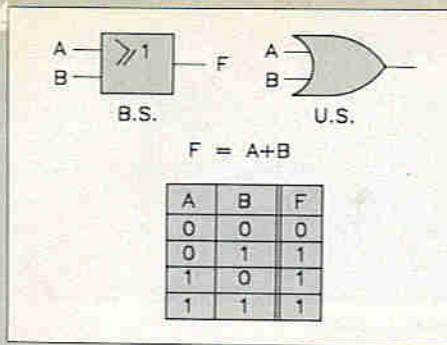
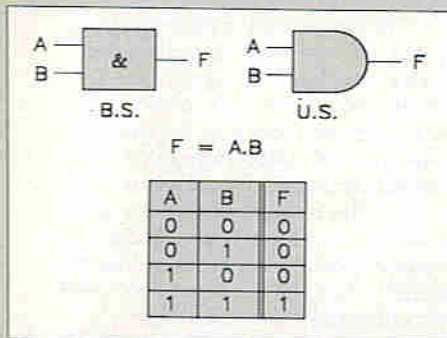
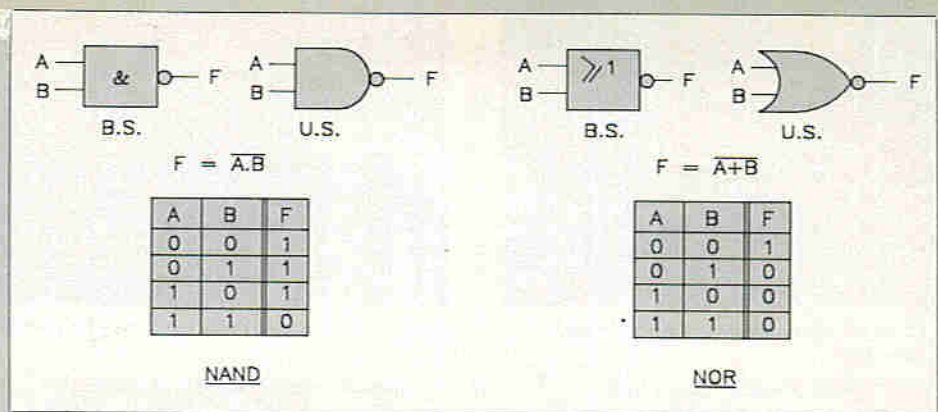

Figure 7. The 2-input OR gate.
Figure 8. The 2-input AND gate.
Figure 10. The NAND and NOR gates.
Figure 7 shows the British Standard (BS) and U.S. symbols for a 2-input OR gate, together with its truth table.
Figure 8 shows the BS and U.S. symbols for a 2-input AND gate, together with its truth table.
As it happens, the three functions discussed above, namely AND, OR and NOT, can be realised using other types of gate, known as NAND and NOR gates. The term NAND is derived from a combination of the terms NOT and AND, while NOR comes from NOT and OR combined. The symbols for these gates, with their truth tables are shown in Figure 10. Compare the NAND truth table with that for the AND gate in Figure 8, and do the same for the NOR gate, comparing it with Figure 7. They are seen to be opposites, as expected. In terms of Boolean algebra, the output has a bar over it to indicate the NOT part of the NAND or NOR function.